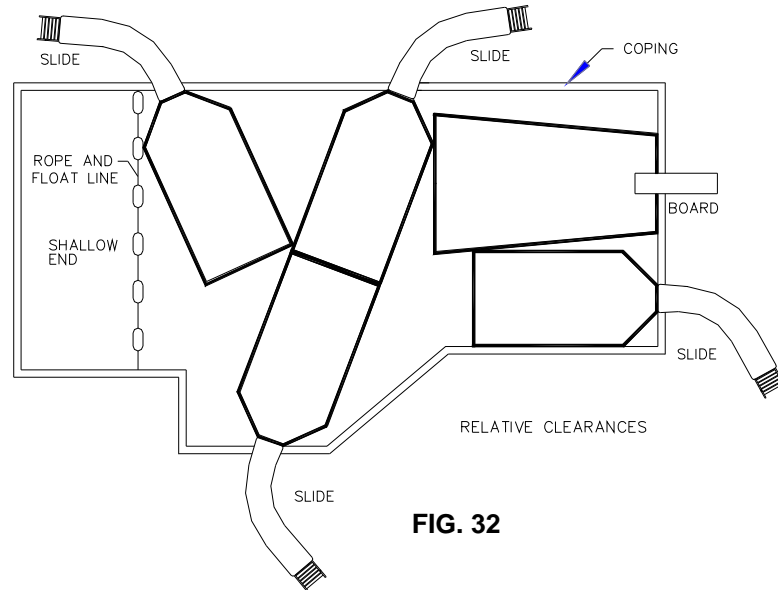

FIG. 32
- C. The minimum clearance area of a slide or diving board shall not intersect any coping or rope and float line as shown in **FIG. 32**. The minimum clearance area of a slide or diving board may intersect each other provided that they are not used simultaneously.